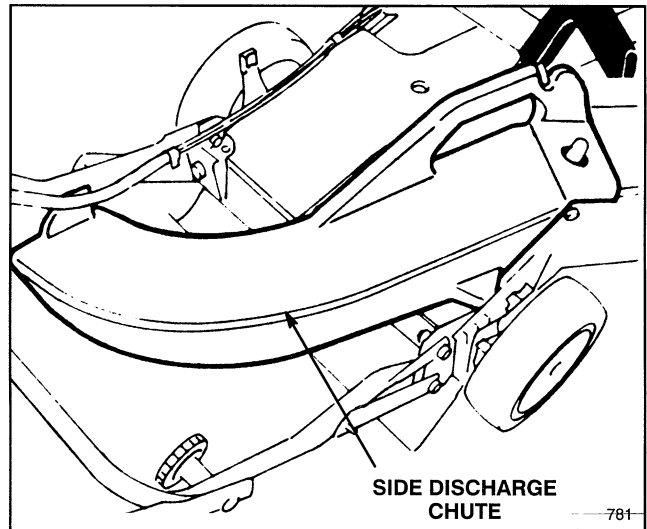

Figure 28
1. **Side Discharge Kit, Model No. 59168**—Install in seconds. Rear mounted in place of the grass bag. Disperses clippings while trimming on both sides (Fig. 28).